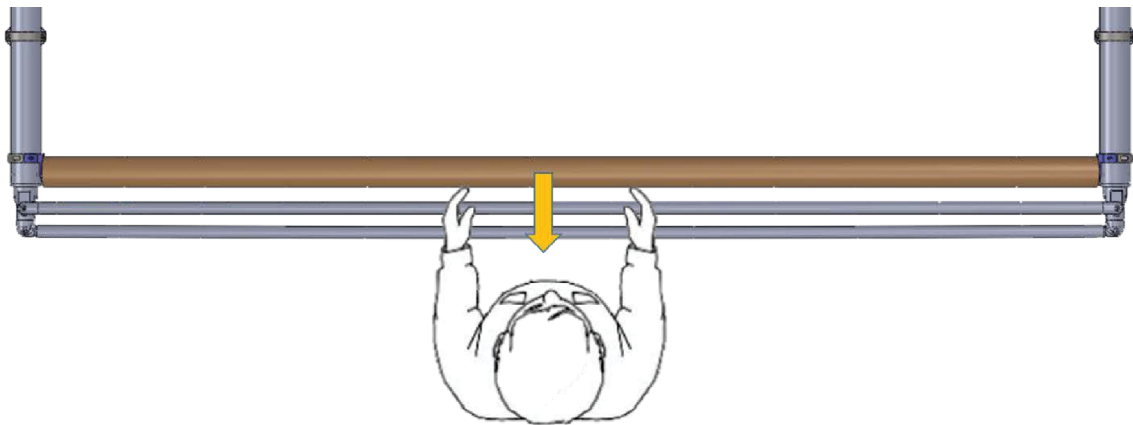

Fig.22
- A. Stand behind the roller facing the front of the boat and grab the canvas and roller with both hands (**Fig.22**).